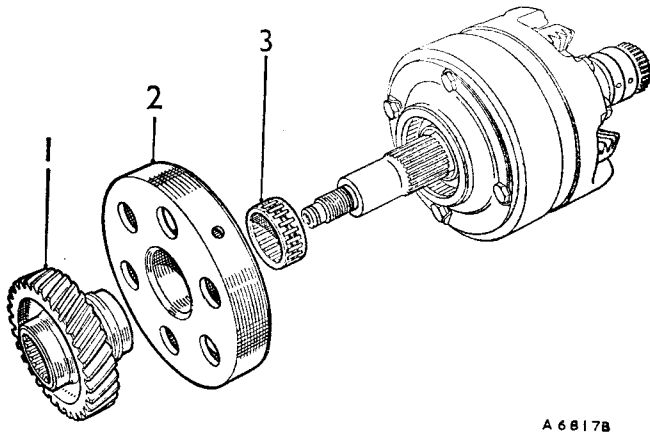
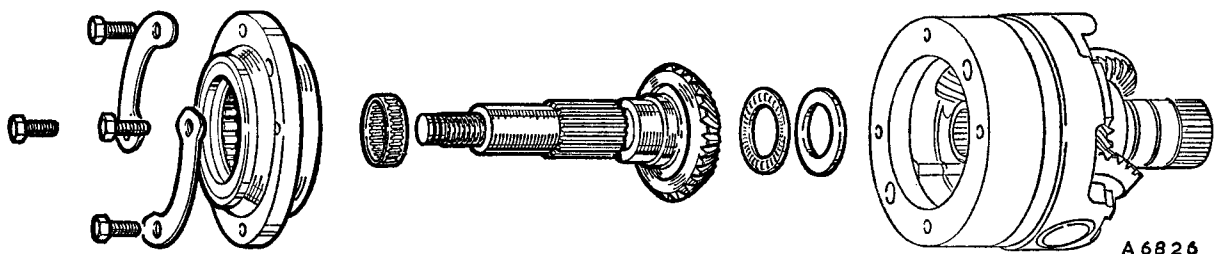

Fig. Fa.39
Fig. Fa.40
- (5) Remove the input gear, and pull off the first gear free-wheel reaction member and needle-roller bearing (Fig. Fa.39).
- (6) Knock back the lock washers and remove the first gear free-wheel housing set screws.
- (7) Pull out the first gear free-wheel assembly, input gear, Torrington thrust race, and washer (Fig. Fa.40).
(27) Assemble the bevel input shaft with its Torrington needle thrust bearing and selective steel washer (see Fig. Fa.40).
(28) Refit the one-way clutch to the gear train housing (Fig. Fa.40), tighten the securing bolts, and tap up the locking plate tabs.
(29) Refit the free-wheel support.